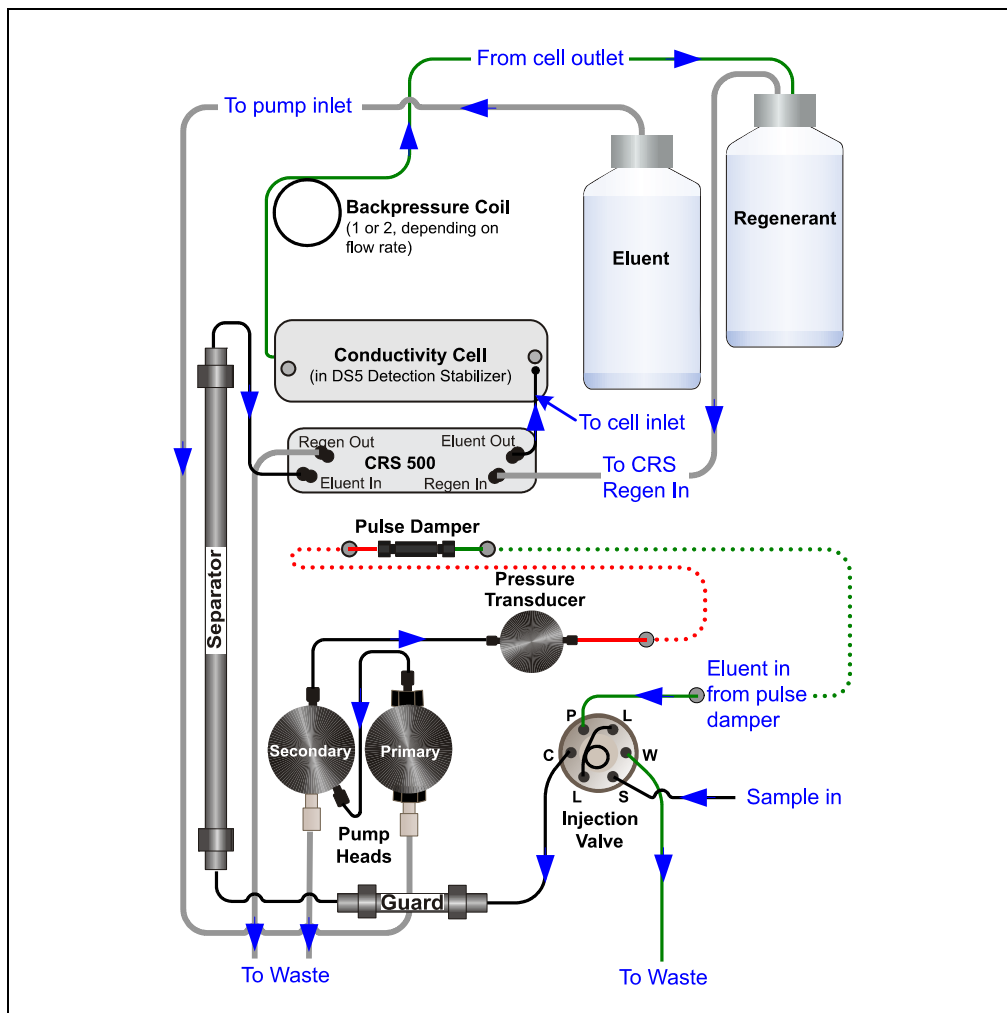

Figure 5-2. Dionex Easion Flow Schematic
2. Follow the Dionex Easion flow schematic (see Figure 5-2) to work backward through the system, beginning at the cell exit. One at a time, loosen each fitting and observe the pressure. The connection at which the pressure drops abnormally indicates the point of restriction.